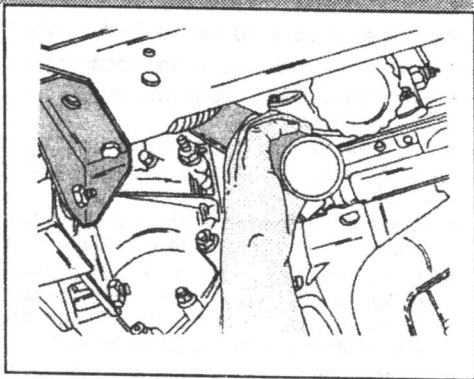

Fig. 6.10. — Removal of the fuel filler tube.
- Remove the fuel filler tube from the crossmember and the tank and withdraw it, as shown in Fig. 6.10.